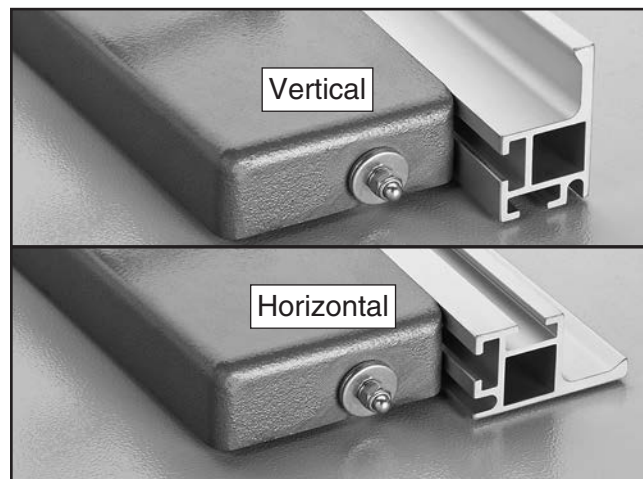

Figure 113. Rip fence positions.
4. Place fence in vertical position (see **Figure 113**) for thicker workpieces, or in horizontal position for thinner workpieces and for angled cuts where blade is tilted over the fence.